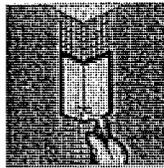
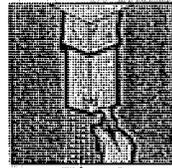

Fig. 5
Fig. 6
**Fiberglass Mesh Tape** (fig.5) fold the tape in half lengthwise and push the tape into the corner; unfold against the drywall and press in place using an inside-corner trowel. Apply joint compound as in step 1 (fig. 6).